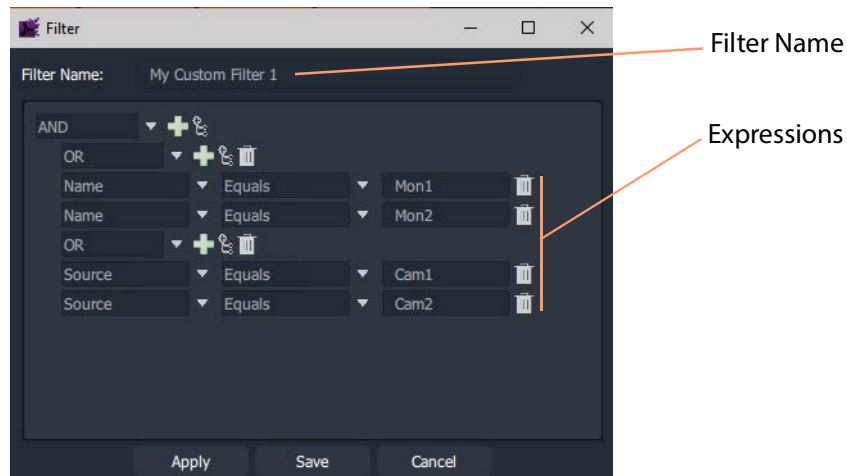

Fig. 12-62: Completed Custom Filter
- 9 Set up the expressions as shown in Figure 12-62.